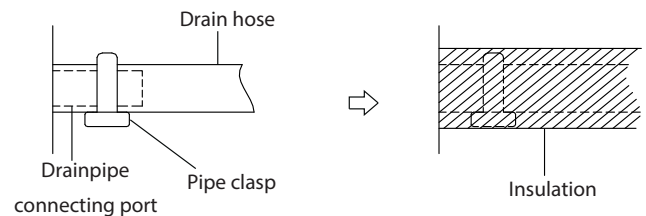

Fig. 15 — Indoor Drainpipe Installation
- b. Attach the mouth of the drain hose to the unit's outlet pipe. Sheath the mouth of the hose and clip it firmly with a pipe clasp (see Fig. 15).